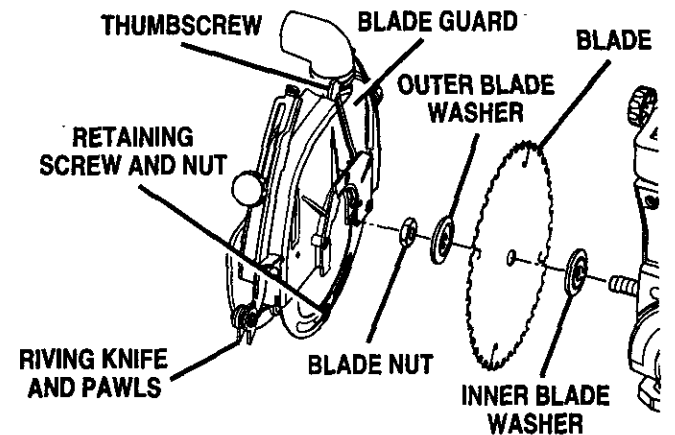

Fig. 26A
See Figures 26A and 26B.
- Collect the blade and hardware that were removed earlier. Place the inner blade washer, saw blade, outer blade washer, and blade nut on the blade arbor. See Figure 26A. **Note:** The concave side of blade washers go against the blade.
- Attach the blade guard over the blade so the riving knife and pawls face front. See Figure 26A.